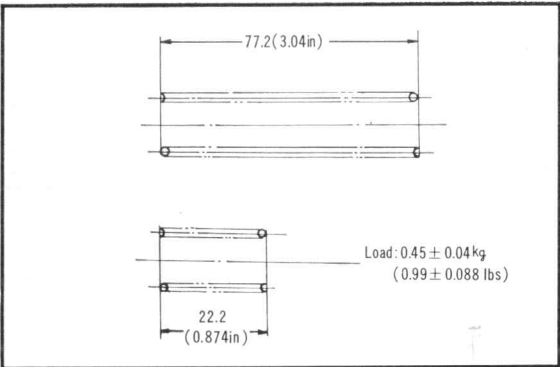

Figure 3-61. Cam chain tensioner spring
- (1) Cam chain tensioner spring. (Fig. 3-61)